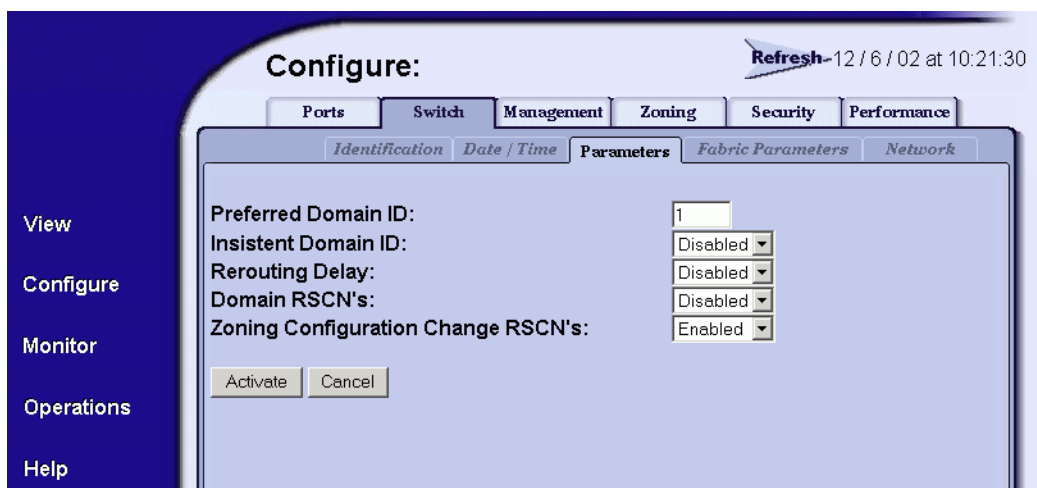

Figure 2-11 Configure Panel (Switch Page with Parameters Tab)
3. At the *Configure* panel, click the *Switch* tab, then click the *Parameters* tab. The *Switch* page displays with the *Parameters* tab selected (Figure 2-11).